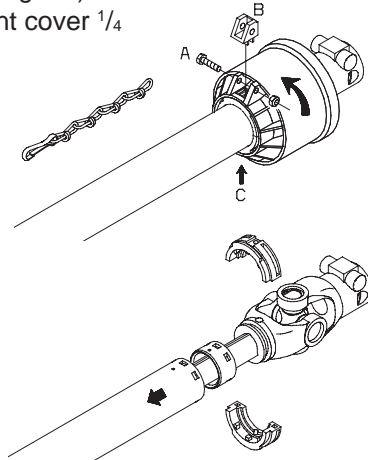

Fig. 27
1. Remove bolt **(A)** (Fig. 27), lock **(B)** (Fig. 27) and grease nipple **(C)** (Fig. 27). Twist joint cover  $\frac{1}{4}$  turn and pull it backwards.